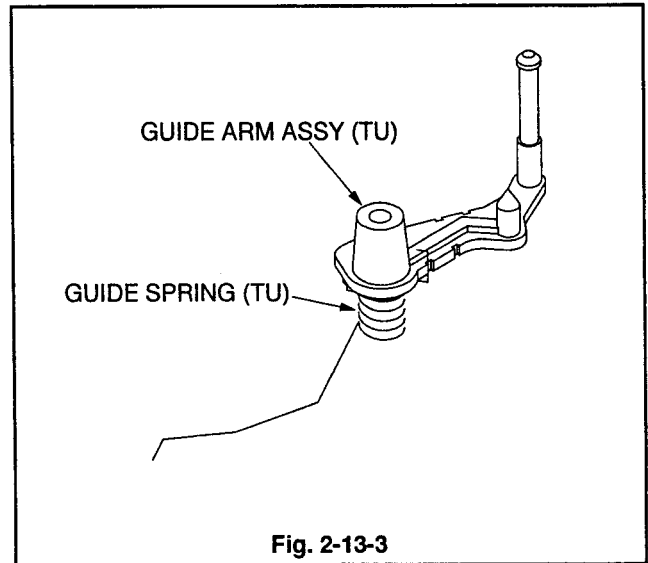

Fig. 2-13-3
4. Fix the GUIDE SPRING (TU) to the GUIDE ARM ASSY (TU) as shown in Fig. 2-13-3.